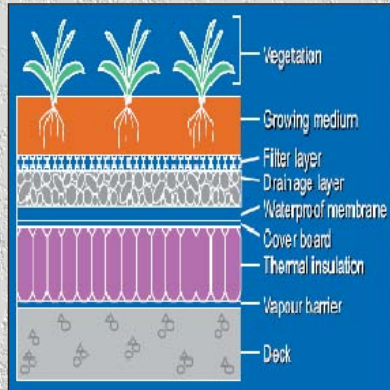

Figure: 1
- Deciduous plants (Figure: 1)